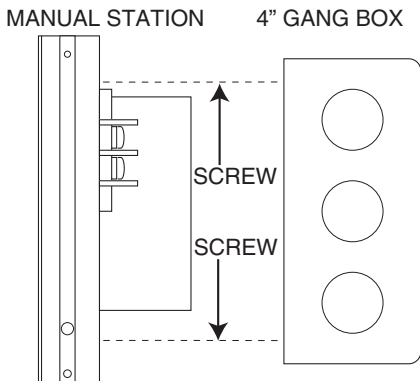

Figure 3: Mounting the manual station
2. Mount the station to a surface mounted box with the 2 included screws. Refer to Figure 3.